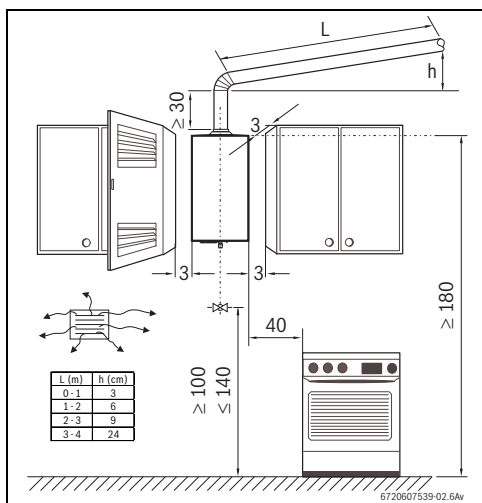

Fig. 12 Minimum clearances (in cm)
- Respect the minimum installation measurements indicated in Fig. 12.